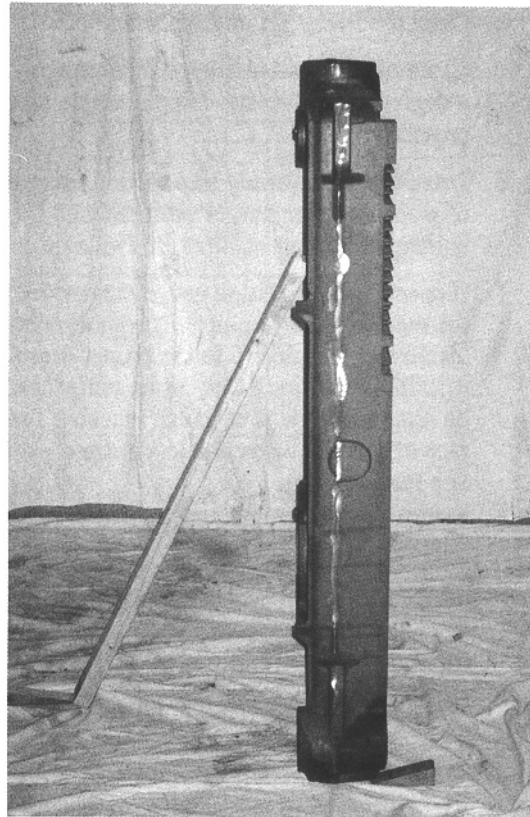

Figure 5: Positioning of Back Section
- a. Place the rear section in its approximate final position, as outlined in Section I and support it with a suitable prop. See Figure 5.
- e. While the adhesive is becoming tacky, clean the nipples and nipple ports thoroughly with a degreasing solvent. Use Loctite #592 or equivalent to lubricate the nipples and nipple ports, then use a brush to disperse it evenly around the nipples and nipple ports. Use approximately 25 ml of Loctite #592 per flueway [(1) 7" and (2) 3" nipples and their (6) corresponding nipple ports].